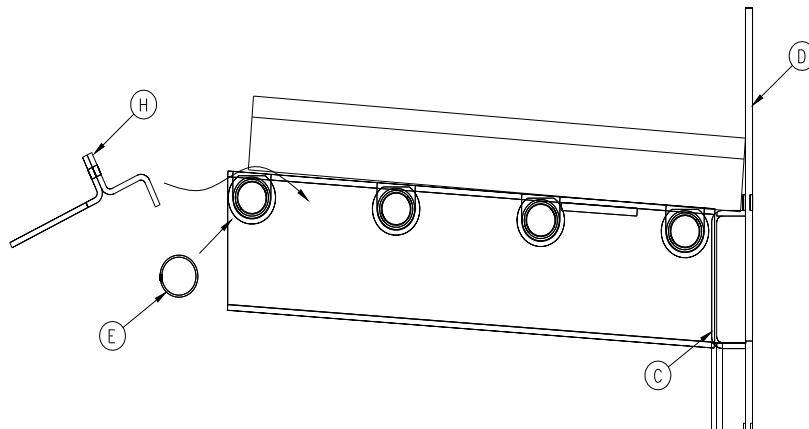
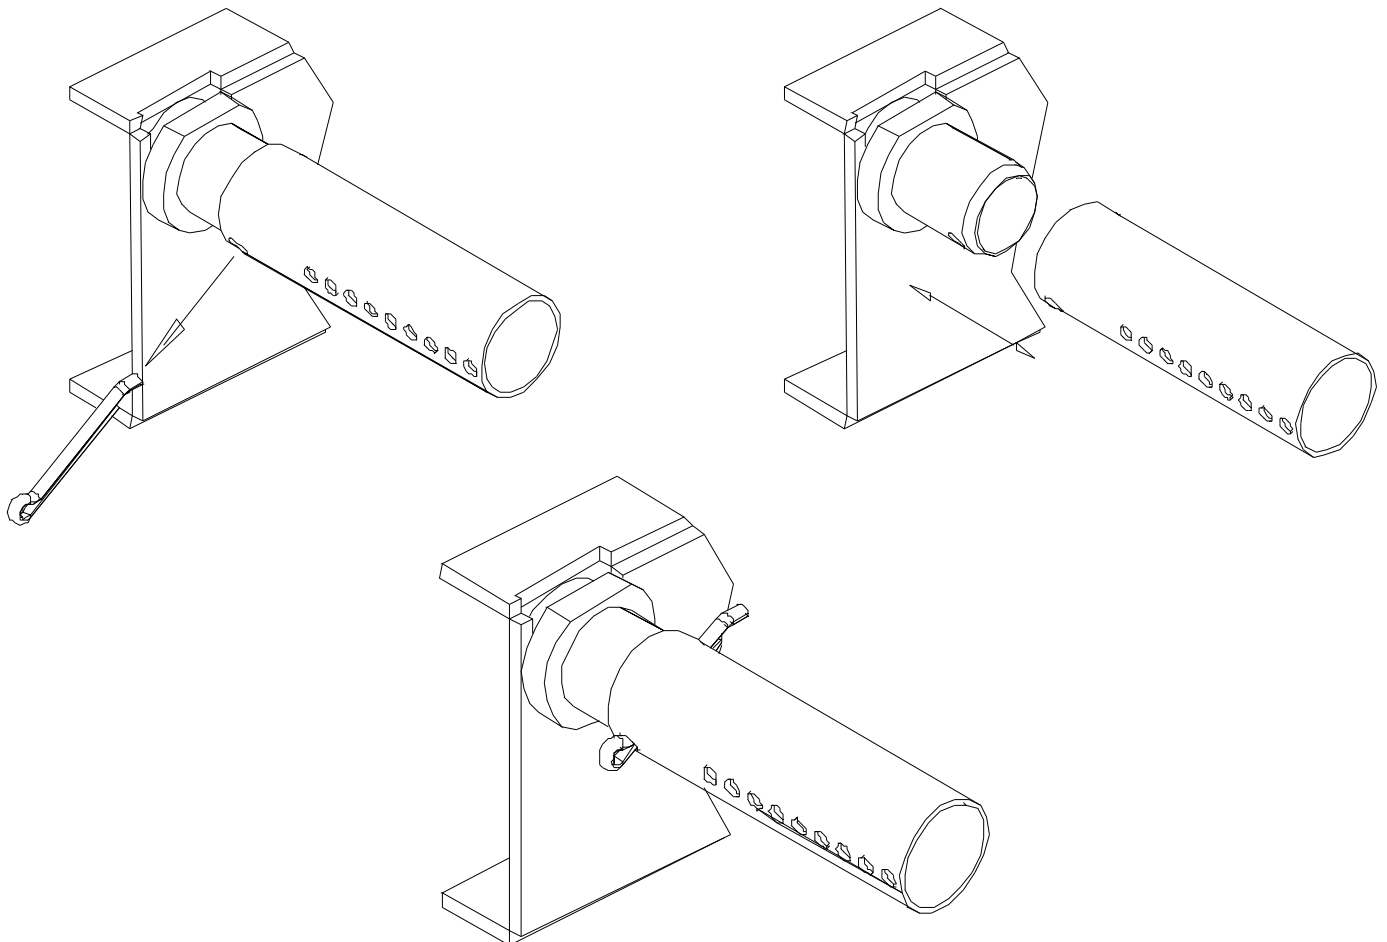

Figure 3.4b
Figure 3.4 – Secondary Air Tube replacement
2. Put them on the horizontal air duct (C) (see figure 3.4b). Afterwards, push them towards the bottom and sides so that they rest on the back of the firebox (D) and on the side air ducts. Install the baffle support/extension (H) ensuring that it fits between the front risers and hold it in place. Install the front secondary air tube as show in figure 3.4c ensuring air holes face forward. Install the cotter pins as in fig 3.4. Installing the front secondary air tube (E) will stabilize baffle assembly during the next step.
3. Install the middle and rear secondary air tubes ensuring air holes face forward. Install the cotter pins as in fig 3.4.
(See Figure 3.4)